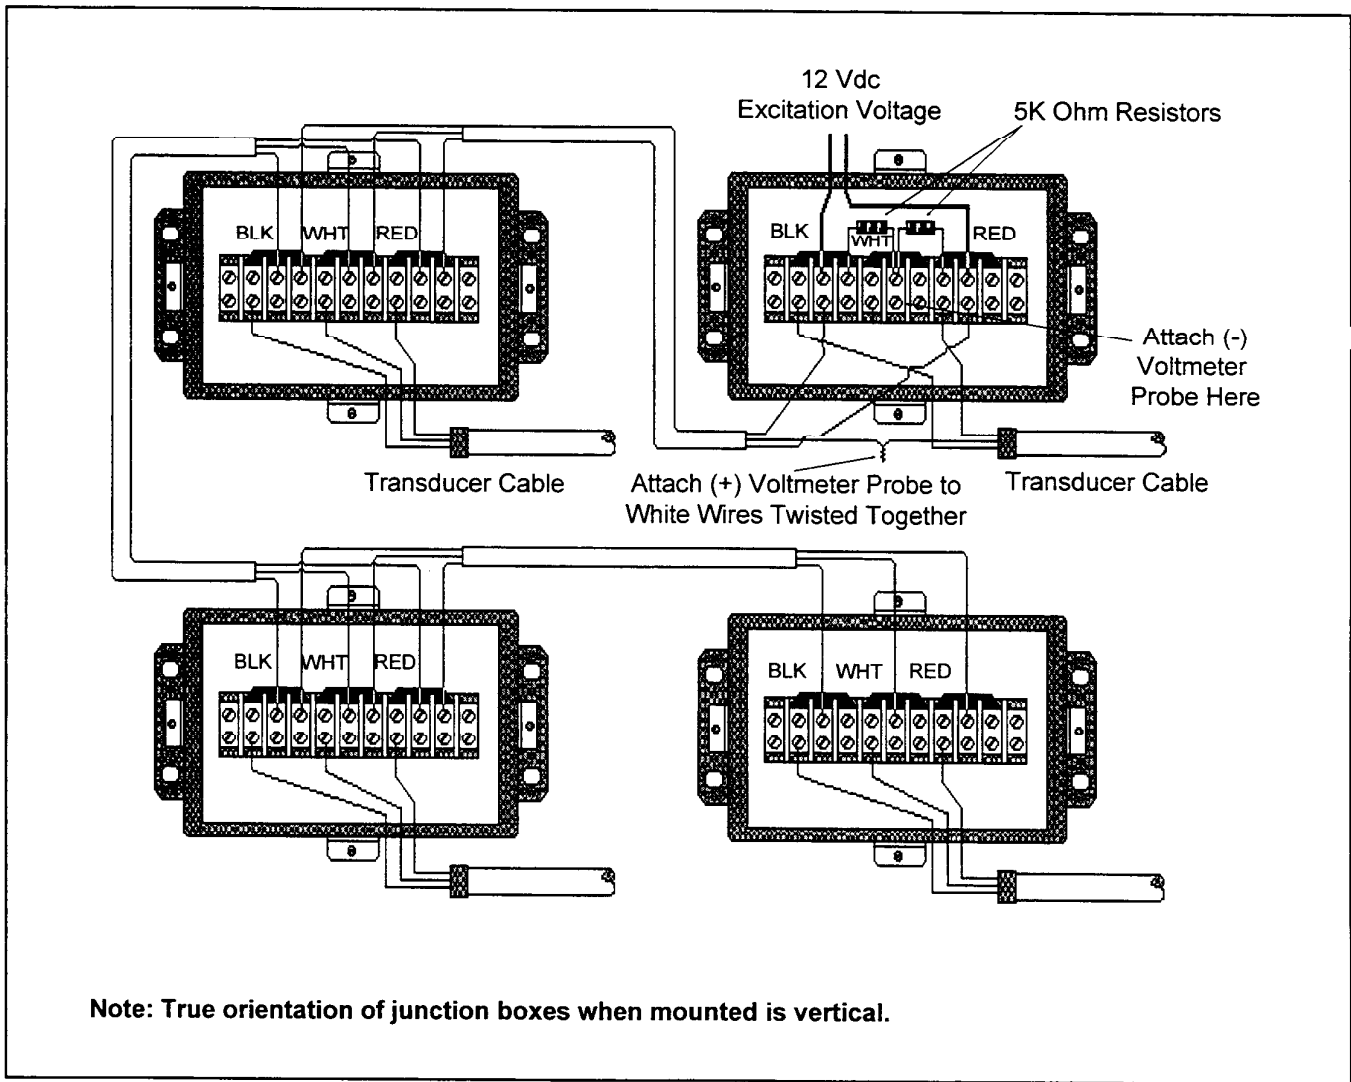

Figure C-8. Taking a Voltage Reading from a Load Disc II Transducer Array Wired to Stainless Steel Junction Boxes.
- 1. Stainless Steel Junction Boxes.** Attach two 5K ohm resistors to the terminal strip in any of the Load Disc II junction boxes as shown in Figure C-8.
**2. Stainless Steel Junction Boxes.** Disconnect from the terminal strip the white wire of the transducer and the white wire of the cable that daisy chains the junction boxes together. Twist the ends of the two white wires together as shown in Figure C-8.
**3. Stainless Steel Junction Boxes.** With the vessel empty, connect a 12 Vdc excitation voltage source to the terminal strip across the red and black transducer wires (Figure C-8).
**4. Stainless Steel Junction Boxes.** Connect the signal (+) probe of the voltmeter to the white wires that are twisted together and the common (-) probe to the terminal where the two resistor leads connect on the terminal strip (Figure C-8).